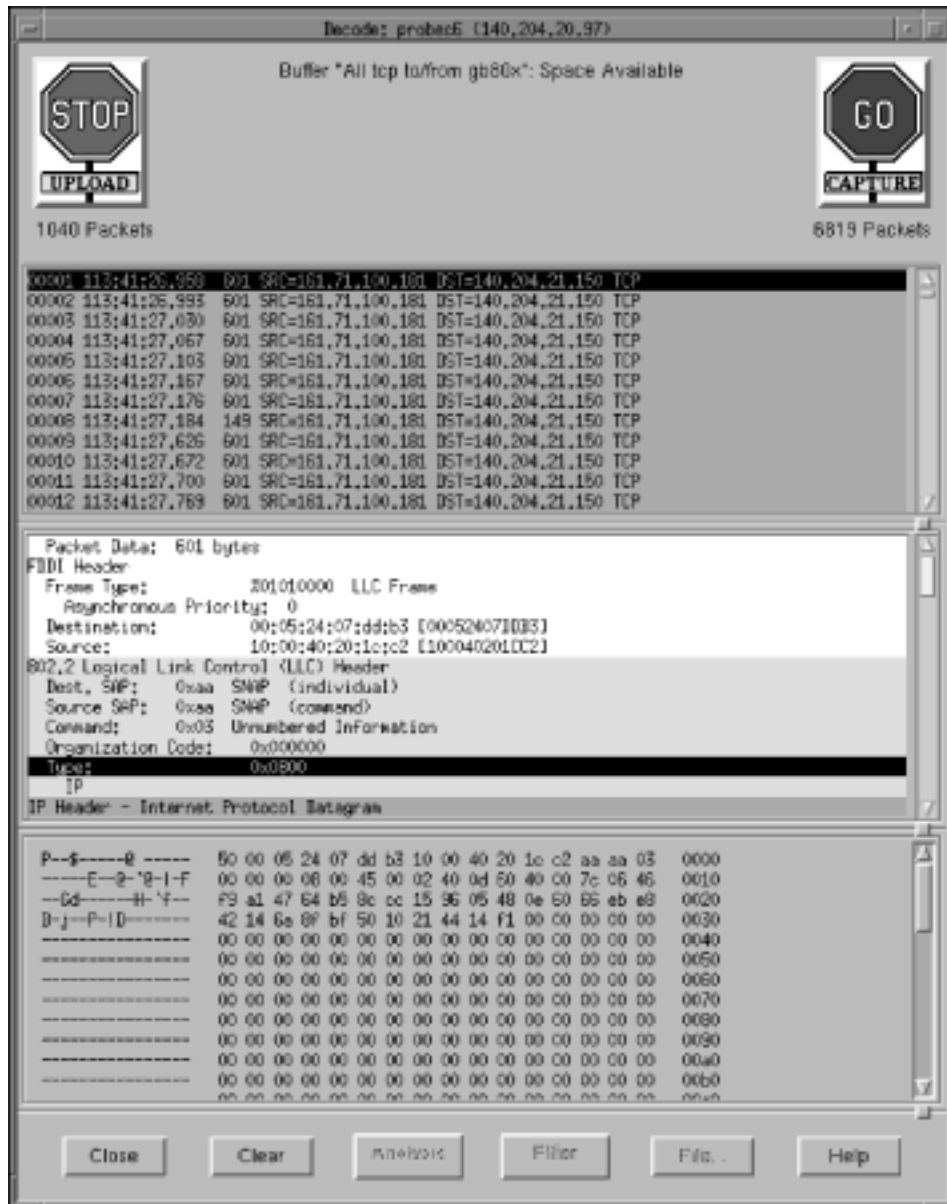
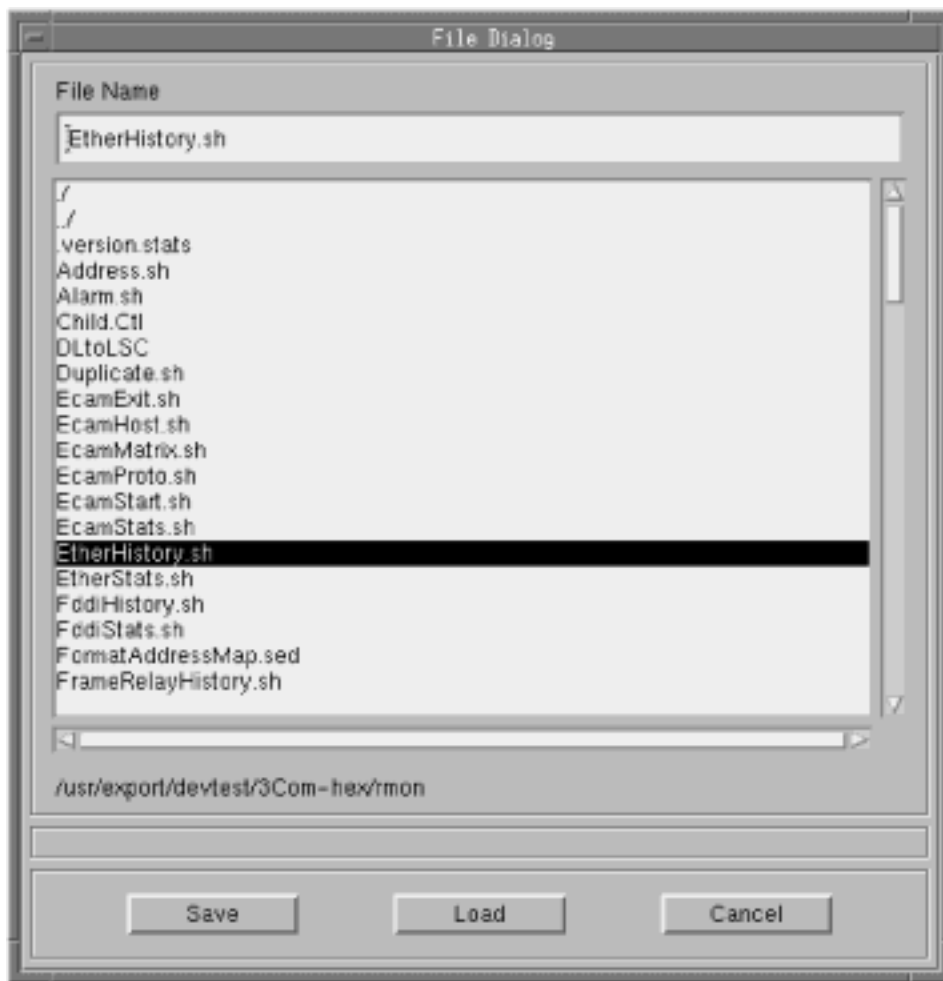

Figure 57. Decode Dialog Box
Figure 60. File Dialog Box
To display the packets you have captured, click Decode in the Capture main dialog box and the Decode dialog box opens, as shown in Figure 57 on page 115.
1. Click **File** in the Decode dialog box (Figure 57 on page 115) to open the File dialog box. Figure 60 on page 119 shows an example of the File dialog box.